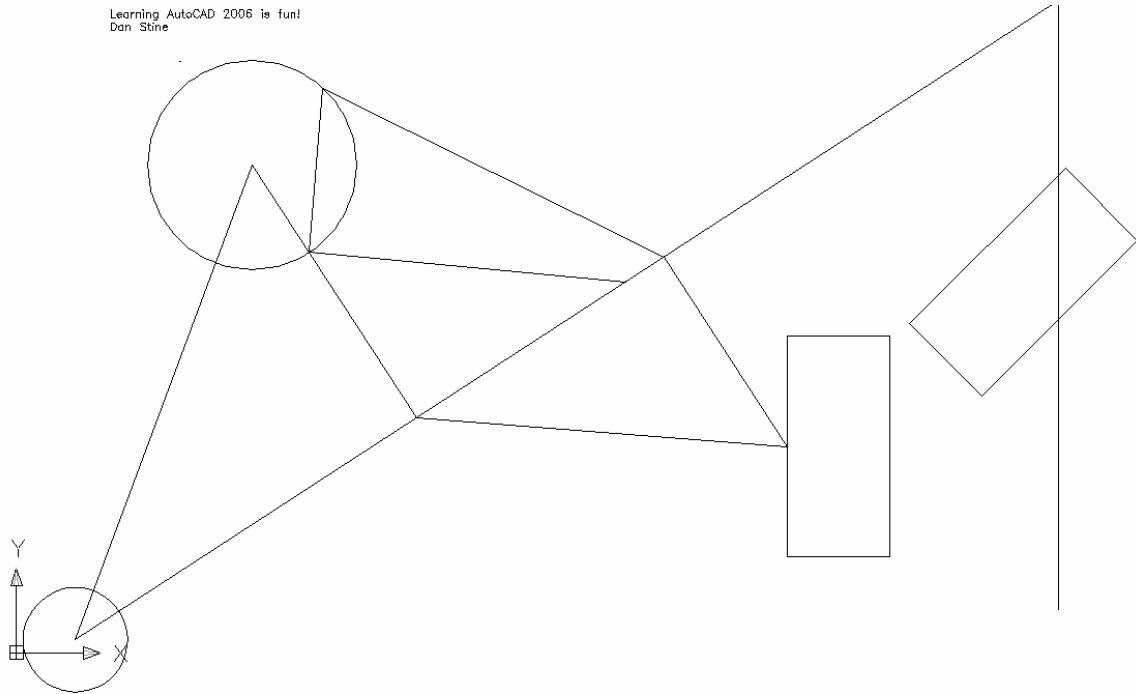

Figure 2-4.4 Mtext; final results of text entered
2. Use the Zoom tools if required to display the portion of drawing shown in Figure 2-4.4.